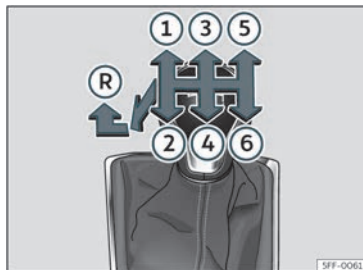

Fig. 141 Diagram of a 6-speed manual gearbox.
Gear positions are indicated on the gear lever >>> **Fig. 141**.
- With the gear lever in neutral, push it down, move it all the way to the left and then forwards to select reverse gear >>> **Fig. 141** (R).